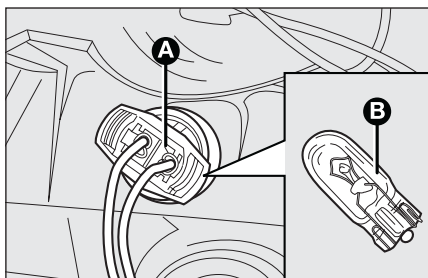

fig. 25
- ☐ remove snap-fitted bulb holder **A-fig. 25**, remove the bulb **B** and **replace it**;